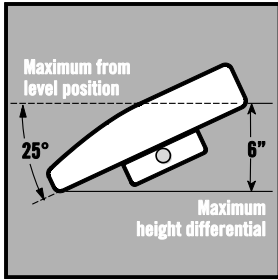

fig. 1 NOTE: The winch strap must be secured to the boat's Bow Eye for highway trailering as well as securing the stern tie downs.
C. POSITIONING THE SNAPPER. 1. Pivot the SNAPPER to a horizontal position with the V-notch toward the bow of the boat. Pull the slide bar on the underside of the SNAPPER back away from the bow of the boat until you hear and feel a catch in the extended position (the jaws have now been manually set in the release/catch position). 2. Slide the entire winch stand assembly toward the bow of the boat. The Bow Eye must pass through the jaws of the SNAPPER and latch securely. 3. Observe the horizontal position of the SNAPPER. The front of the SNAPPER should never be tipped down at an angle more than 25° from a horizontal plane. (Fig. 1) If the front is horizontal or pointed upward, loosen and reposition the roller / V block support to a higher point on the winch stand.